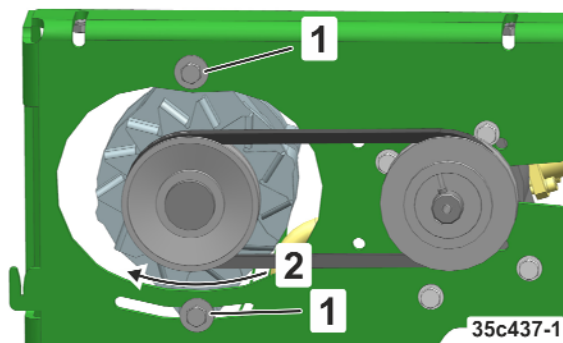

Fig. 270
2. Loosen the bolts (Fig. 270/1)
3. Tension the V-belt using the generator (Fig. 270/2)